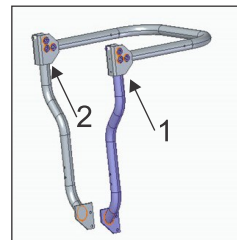

Fig. 2.15 (B)
- Always keep upper part of the safety structure pinned in vertical position (as in the above Fig.2.15) when operating the tractor.